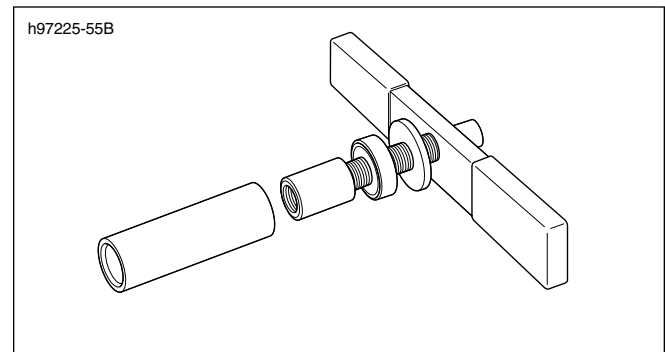

Figure 3-38. Sprocket Shaft Timken Bearing Cone Installer (Part No. HD-97225-55B)
5. See Figure 3-38. Obtain the SPROCKET SHAFT TIMKEN BEARING CONE INSTALLER (HD-97225-55B). Assemble tool as described below.